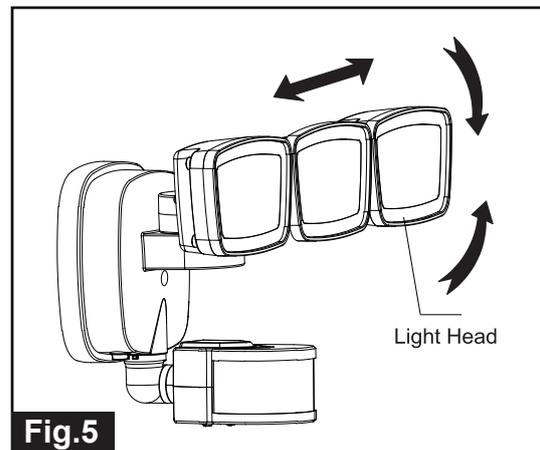

Fig.5
1. Gently grasp the light heads and move them up or down, left or right to adjust the light coverage area. Keep the light heads at least 1” (25mm) away from the sensor.(See Fig. 5)